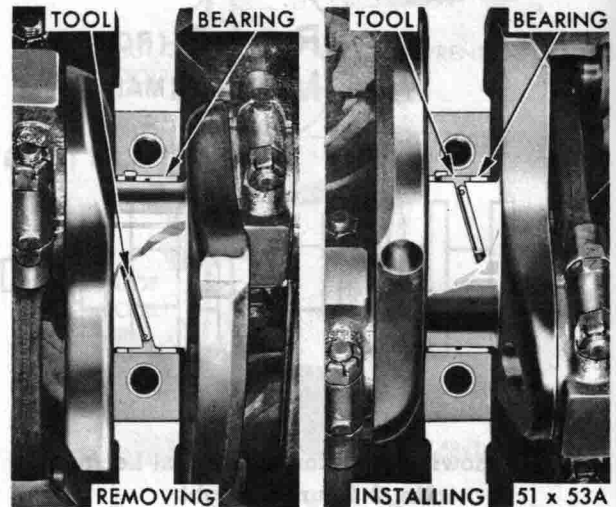

Fig. 55—Removing or Installing Main Bearing Upper Shell
(1) Remove the oil pan and mark bearing caps before removal.
(2) Remove bearing caps one at a time. Remove upper half of bearing by inserting Tool C-3059 (Figure 55) into the oil hole of crankshaft.
(3) Slowly rotate crankshaft clockwise, forcing out upper half of bearing.
(1) Lubricate the bearing. Start bearing in place, and insert Tool C-3059 into the oil hole of crankshaft (Fig. 55).
(2) Slowly rotate the crankshaft counter-clockwise sliding the bearing into position.
(3) After all bearings have been fitted, tighten all caps to 85 foot-pounds torque. The crankshaft end clearance at #3 main bearing should be .002 to .007 in.